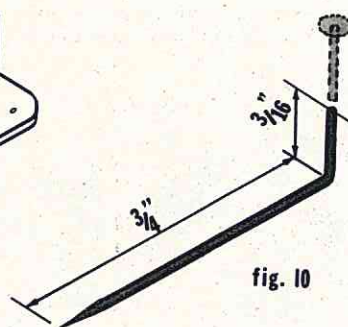

fig. 10
STEP 11. Cut off the head of the pin & bend it as shown. (Fig. 10) Now mate the hinged surfaces and slip the pin into the holes. Check for easy movement. Then disassemble for painting.